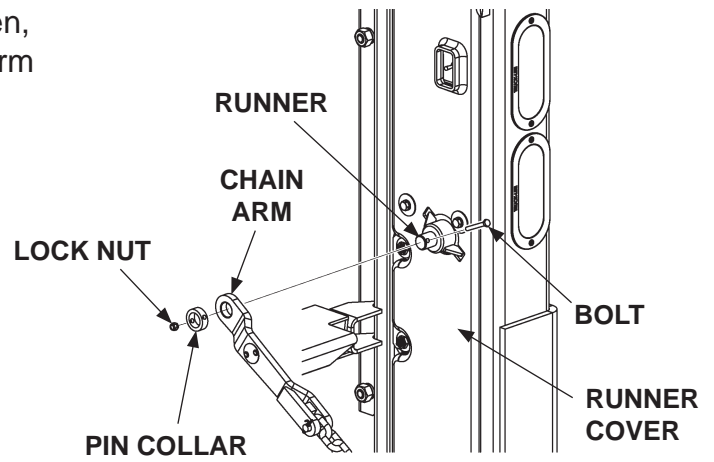

FIG. 8-1
18. Reattach chain arm to RH runner. Then, bolt on the pin collar to secure chain arm (FIG. 8-1). Repeat for LH runner.